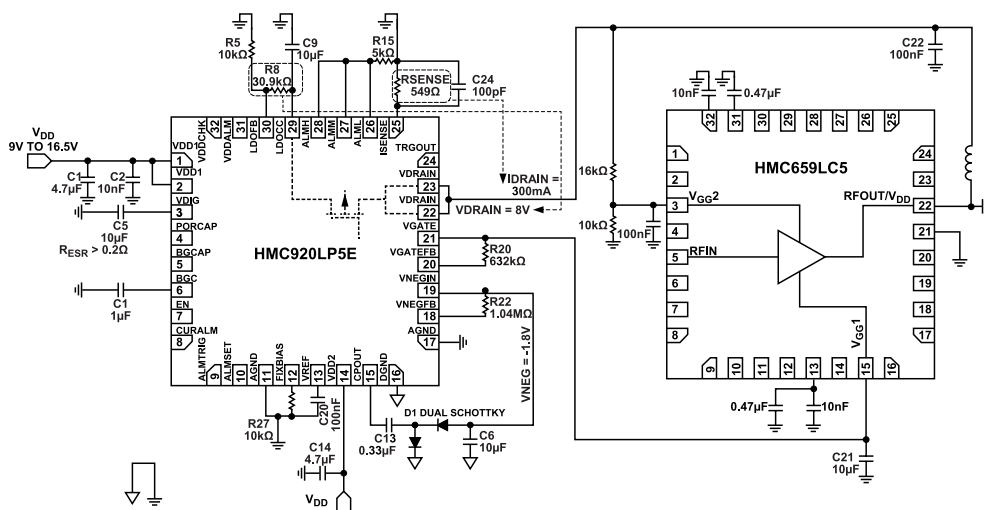

Figure 28. Application Circuit for Biasing the HMC659LC5 with the HMC920LP5E
- The shunt V_{GGX} capacitor values can be reduced to increase the rise time (see **HMC659LC5** in **Figure 28**). Refer to the **Reducing the Rise Time of the VGATE Voltage** section for further details.